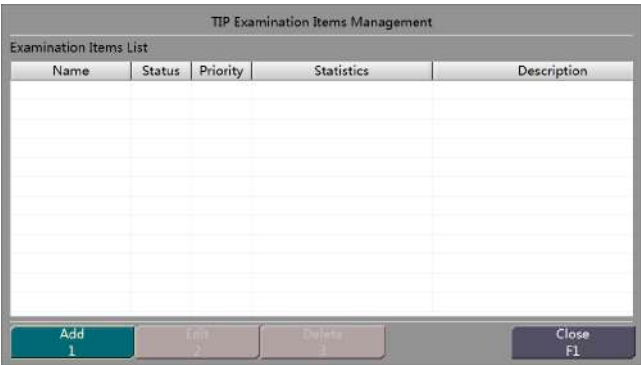

Figure 16-2 TIP Examination Items Management
Step 2 Choose Examination to display an interface, as shown in Figure 16-2.